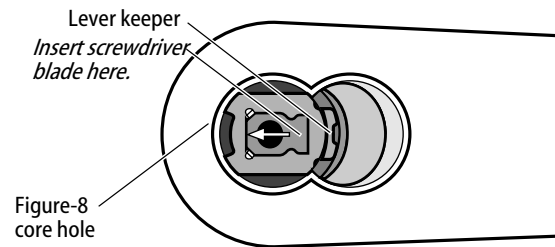

Figure 7 Removing the outside lever
- 3 Press the screwdriver blade in the direction of the arrow in Figure 7.